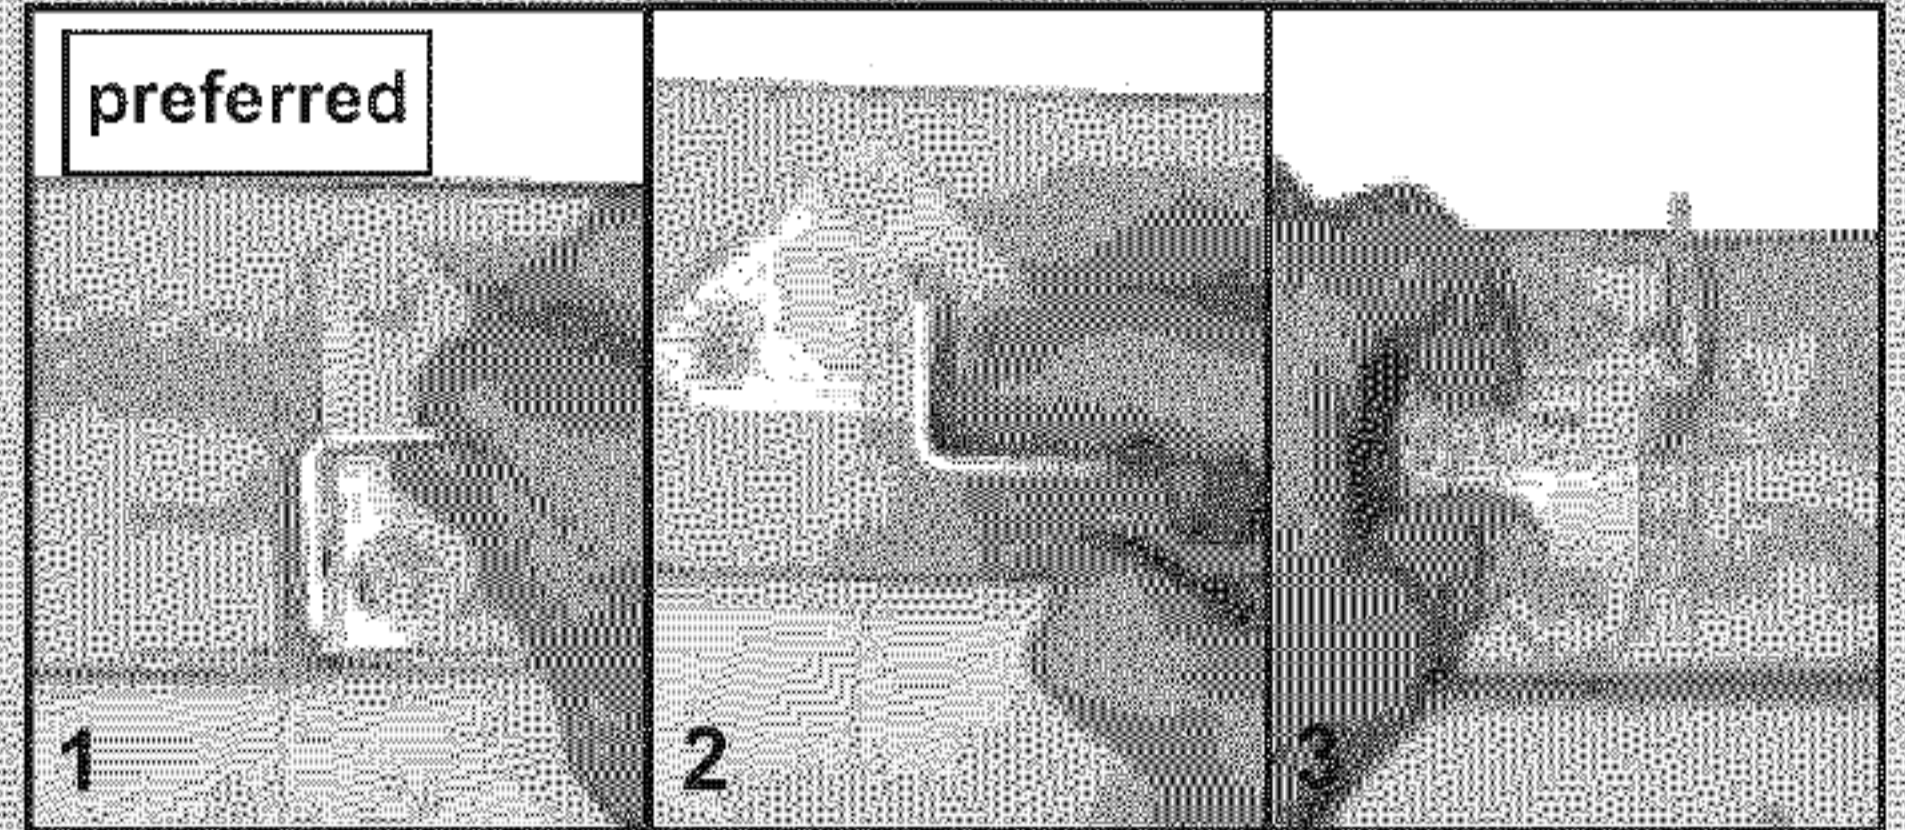

FIG. 2-5 Header bracket in place (3 methods)
**NOTE:** Although header bracket may be oriented several ways, method 1 is preferred if possible because of added strength over other methods (Fig. 2-5).
- Hold header bracket against wall (Fig. 2-5).
- Fasten header bracket with 3 lag screws (22) (Fig. 2-5).